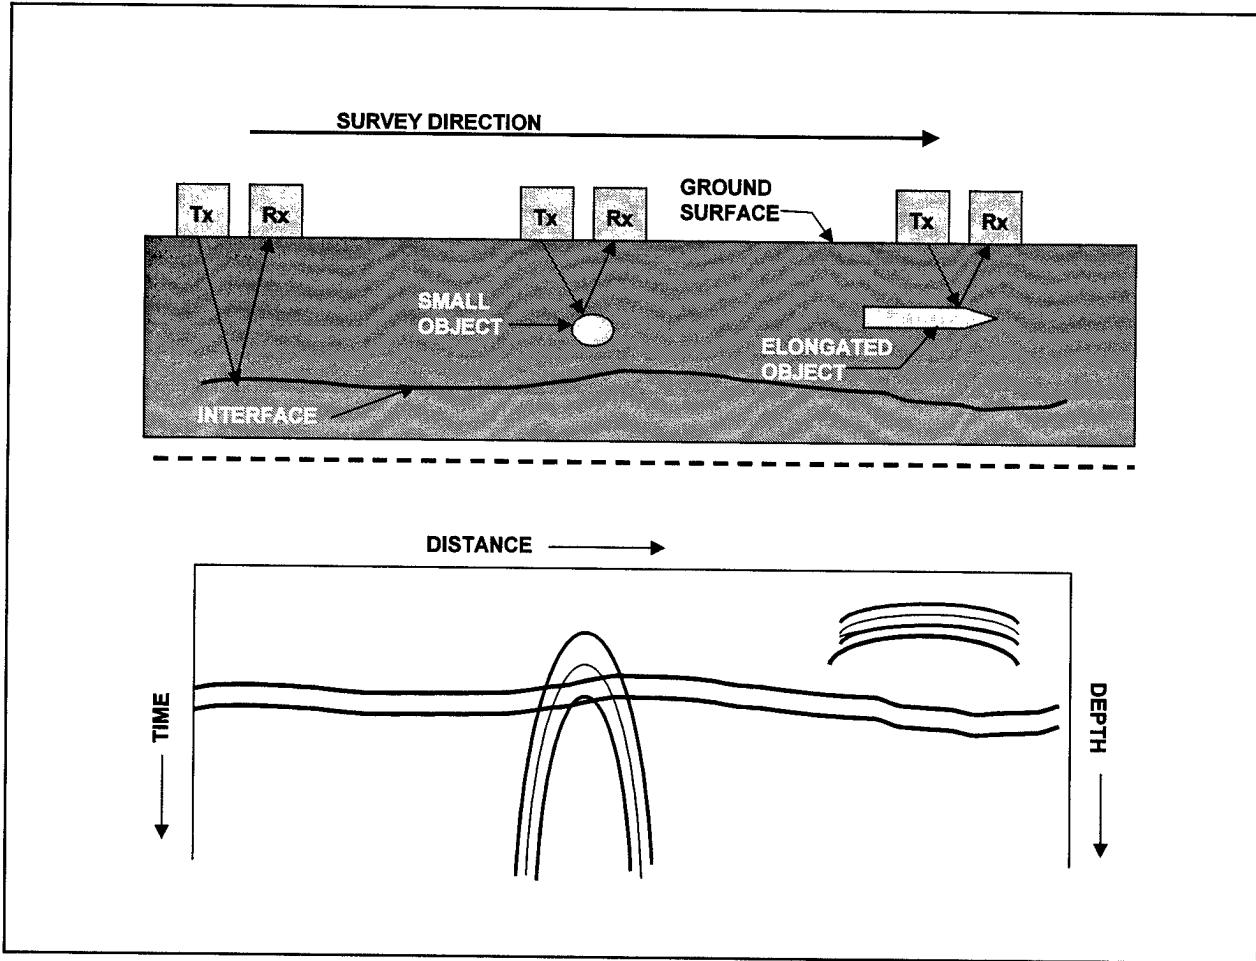

Figure 1. GPR concepts
Traditionally, GPR has been used as a geophysical technique for subsurface exploration. GPR involves transmitting high-frequency electromagnetic (EM) pulses into a material. The GPR system consists of a transmitting and receiving antenna. When the transmitted EM signal impinges upon the boundaries of materials with contrasting electrical properties some of the EM signal is reflected back to the surface where it is detected by the receiving antenna. The time the signal takes to travel from the transmitting antenna, reflect off a boundary, and be detected by the receiving antenna are amplified, processed, and recorded to provide a "continuous" profile of the subsurface, as illustrated in Figure 1. The lack of coincidence between zero time and zero depth is due to the separation of the transmitter and receiver antenna. The first arrival at the receiver is the direct wave traveling from the transmitter to the receiver, not the reflection from the ground surface. The time span between zero time and zero depth is the one-way travel time of the direct wave between the transmitter and the receiver. The depth scale, in particular at very shallow depths, is nonlinear. The depth scale is based on the velocity of the transmitted EM pulse through the propagating media. Because the transmitter and receiver antenna are separated by a finite distance and the transmitted pulse has a lobe-shaped radiation pattern, the ray of the transmitted pulse that arrives at the receiver does not strike the subsurface interface at normal incidence, but at an acute angle. The depth scale is corrected for non-normal incidence of the transmitted ray path.